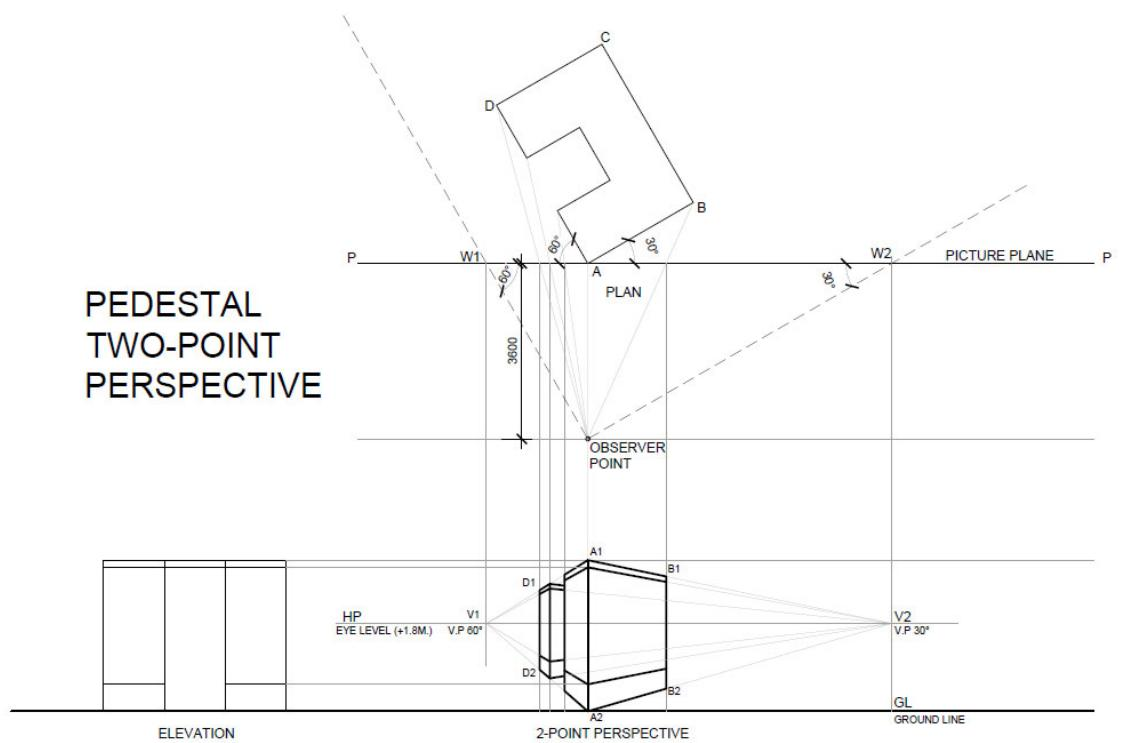

Fig 5.13 Pedestal in Two Point Perspective
1. Assume a line indicating Picture Plane (PP). Object is kept on the ground hence its plan is drawn on line PP. object is making an angle of 30 degree and 60 degrees with the picture plane.
4. Draw one horizontal line (HL) above ground level at a height equal to observer's eye level i.e 1.8m.
6. from S join all the points of object up to PP and then project them vertically downward up to ground level (GL).
7. point A touches the PP hence true height and perspective height of this point will be same. Transfer true height of the object of this line and converge them to vanishing points V1 and V2. These converging lines cut vertical projections of B and D at B1 B2 and D1D2 (upper and lower points of object). Hence sides A1 D1 A2 D2 and A1 B1 and A2 B2 are drawn **Fig 5.13.**